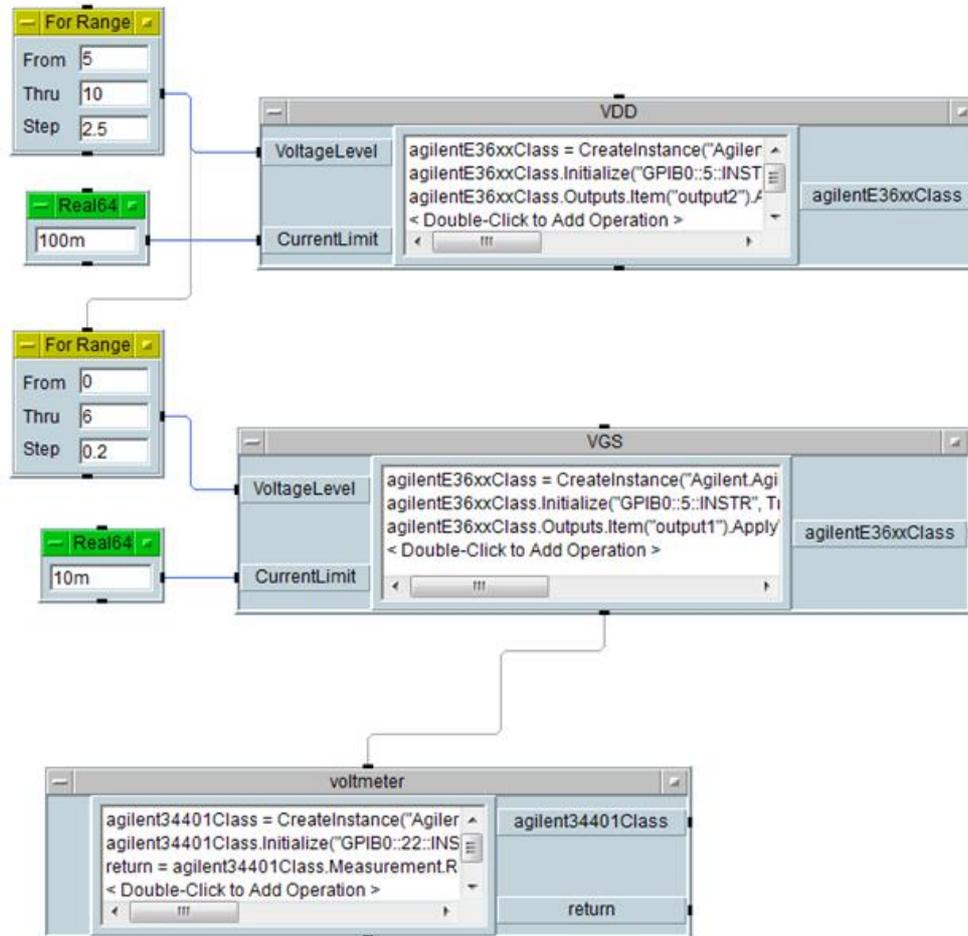

Fig. 22: Connecting Delay object
36) Connect the **sequence output pin** of **VGS** to the **sequence input pin** of the **voltmeter** as shown in Fig. 22. This will ensure that the multimeter will read the output voltage after V_{GS} is set.